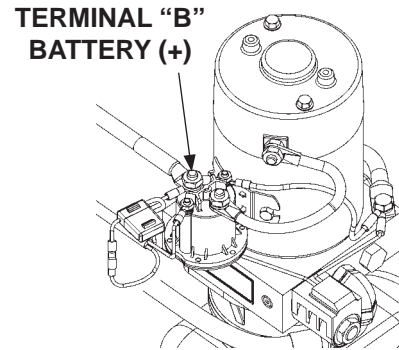

FIG. 38-1
1. Use voltmeter to verify power is being supplied to solenoid terminal "B". Recharge the battery if voltmeter displays less than 12.6 volts (**FIG. 38-1**).